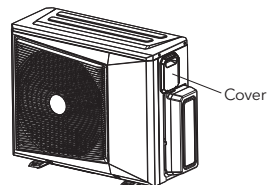

Fig. 11
1. Remove the electrical control board cover from the outdoor unit as shown in Fig. 11.